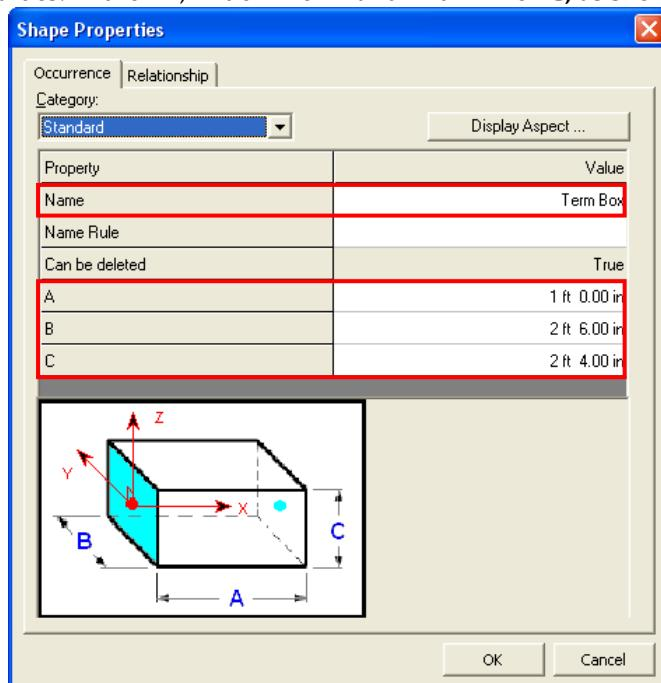

Figure 49: The Shape Properties Dialog Box
18. The **Shape Properties** dialog box opens. Change the **Name** of the shape to **Term Box** and key in the values: **1 ft** for **A**, **2 ft 6 in** for **B** and **2 ft 4 in** for **C**, as shown in Figure 49.